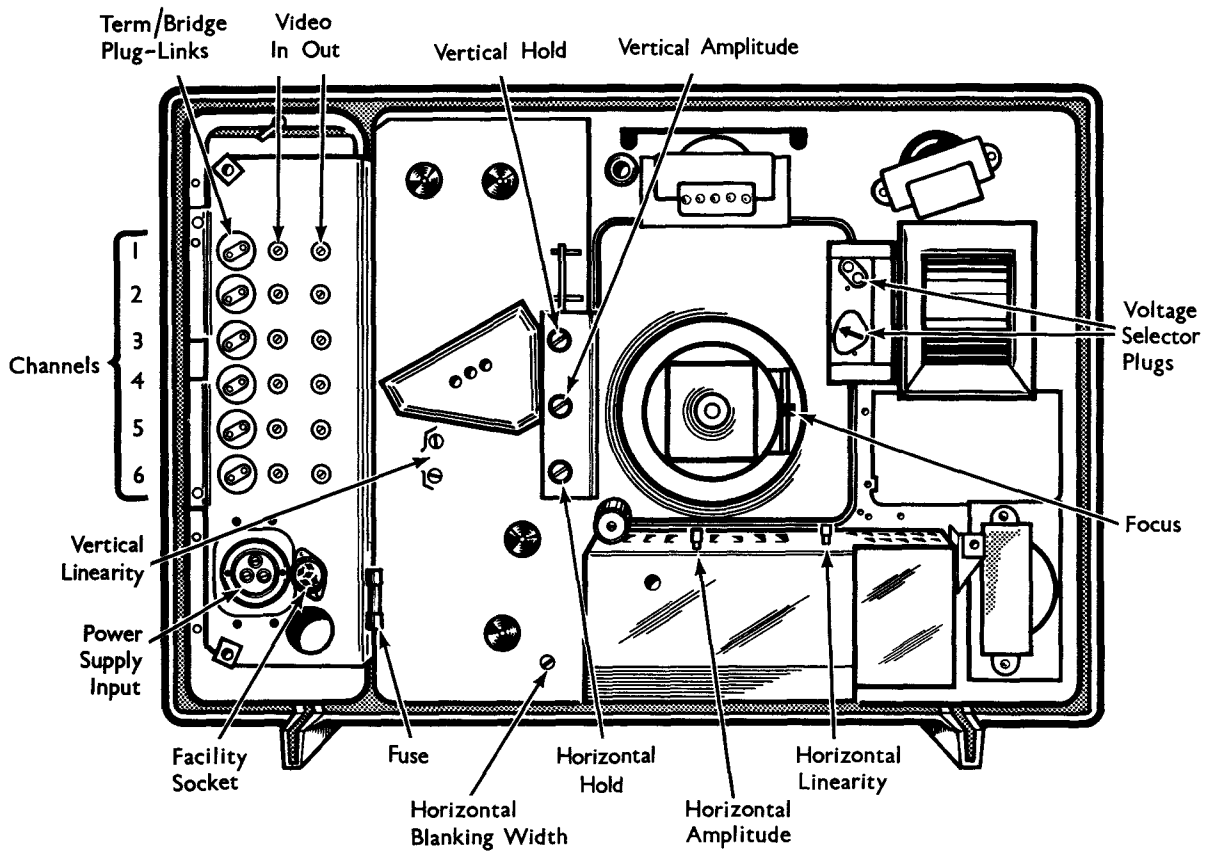

Fig. 3 Rear View Showing Controls
Adjust the two voltage selector plugs (Fig. 3) so that the sum of the two figures equals, or corresponds as nearly as possible to, the voltage of the local supply. (For example, with a supply of 110 V a. c. the plug settings should be '100' and '15'; for 230 V or 240 V the settings would read '200' and '35'.
If operating on the 100-140 V a. c. range replace the fuse (Fig. 3) for one of the correct rating (see 'General Information').
6. Adjust 'Horizontal' and 'Vertical' Hold controls (Fig. 3) if necessary, to 'lock' the picture - or the raster if no picture is available but the camera is switched on.